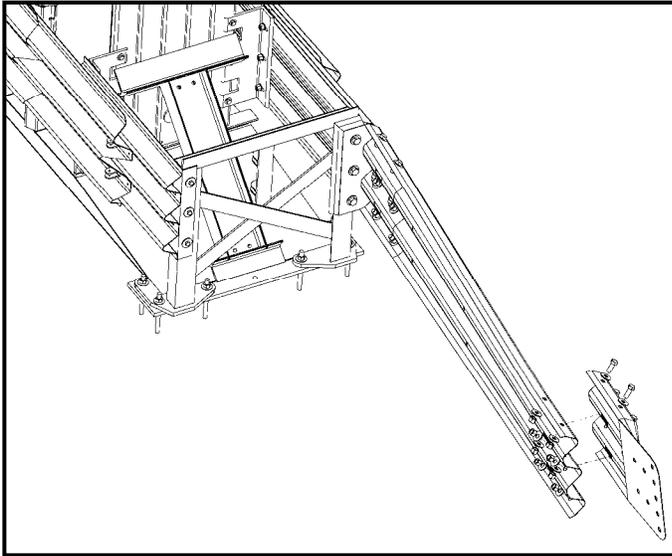
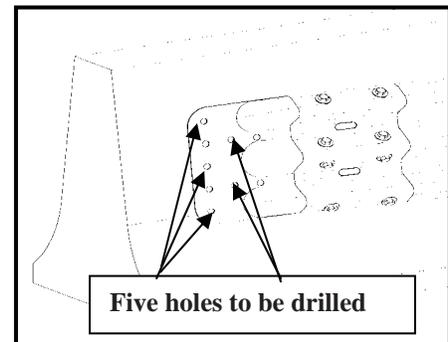

Figure 34: Shoe Attachment
Figure 36: Shoe Positioning Against CMB
Install the Thrie Beam Panel End Plate (Bridge Shoe) (7) to the Thrie Beam Panel (6) using eight bolts (27), eight nuts (29), and sixteen washers (28) as shown in Figures 34 and 35. The installed Bridge Shoe (7) can be seen in Figure 36 below.